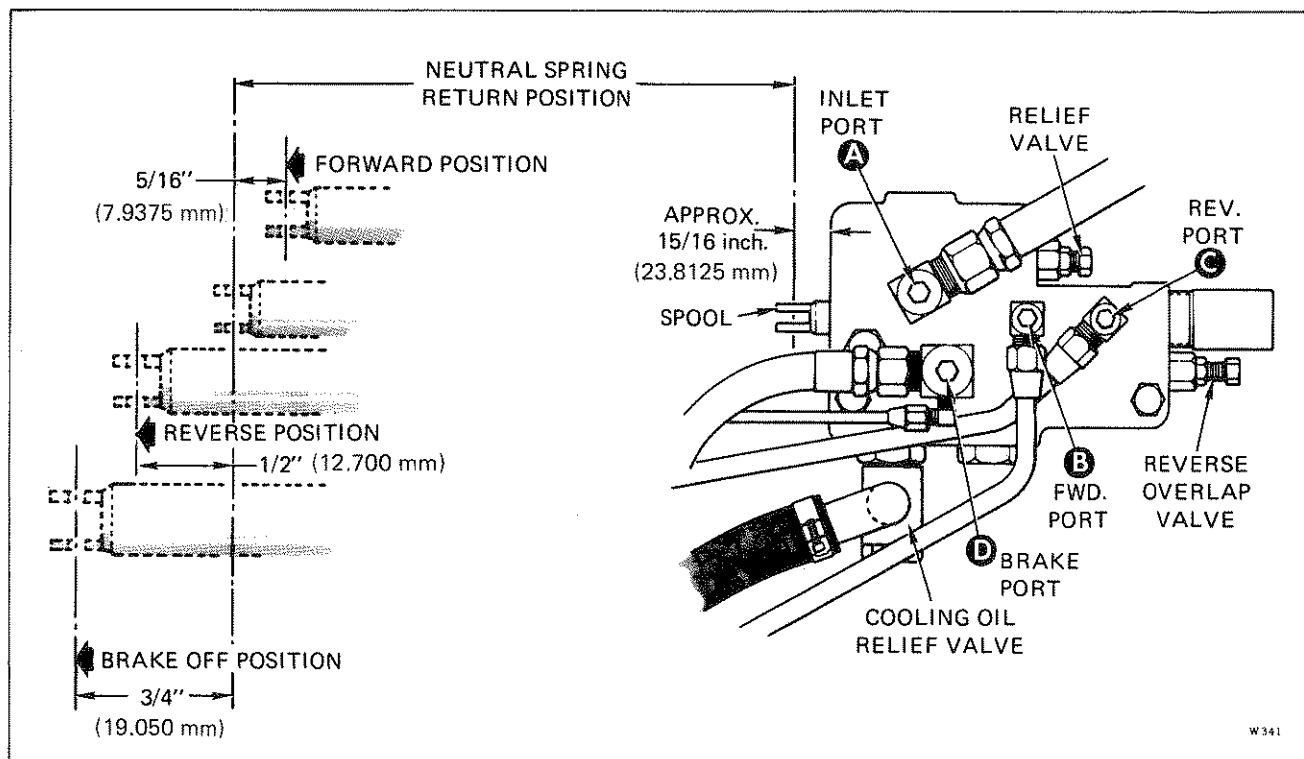

FIGURE 4-11. CONTROL VALVE SPOOL TRAVEL CHECK
(See Figure 4-11.) A spool travel check should be made to ensure that the spool mechanical stops will limit spool travel to the exact linear placement for each of the three principal control positions off NEUTRAL. Pressures are included, for reference only, to tie together corresponding mechanical position and valve hydraulic function. If hydraulic pressure readings are measured, observe procedures given in Paragraph 4-25. The control valve spool is self-positioned to NEUTRAL by the neutral return spring which is a part of the W-11 spool assembly. The three other travel positions are determined by spool assembly internal stops and detent. If spool travel is found to be out of adjustment, the spool assembly should be repaired or replaced (refer to Section 5). Perform the spool travel check as follows:
c. Move spool into body until it bottoms. This position is FORWARD and should be at 5/16-inch (7.9 mm) travel from NEUTRAL as shown in Figure 4-11. Pressure at port B should be 220 ± 10 PSI (15.4682 ± 0.703 kg/cm²).
This position is REVERSE and should be at 1/2-inch (12.7 mm) travel from NEUTRAL as shown in Figure 4-11. Pressure at port C should be 220 ± 10 PSI (15.4682 ± 0.703 kg/cm²).
e. Move spool out of body, past the stop felt in step d, into the detent lock-up position. This position is BRAKE OFF and should be at 3/4-inch (19.05 mm) travel from NEUTRAL as shown in Figure 4-11. Pressure at port D should be 220 ± 10 PSI (15.4682 ± 0.703 kg/cm²).